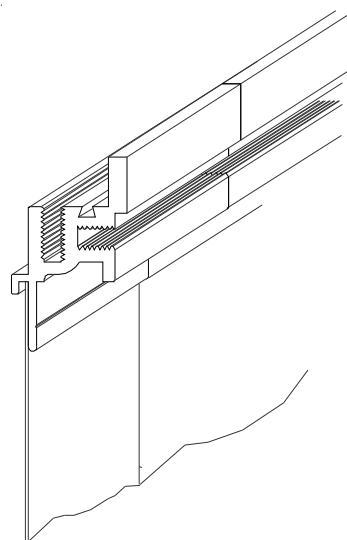

Figure 8
STEP 3. Abut the mating sections of the frame together as tightly as possible (see Figure 8). Ensure that the system is level, even, the proper width, flush with the finished floor, and properly aligned.